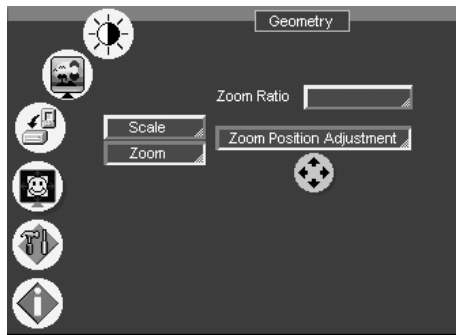

Figure 26: Geometry (Zoom Position Adjustment) Screen
- Using the OSD Menu buttons (see Figure 26)³